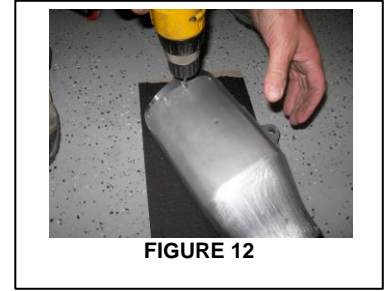

FIGURE 12
17. Install one self-tapping bolt at a time by drilling a 13/64" hole at each rivet hole location. Each time you drill a new hole and install a bolt, make sure that the end cap is pushed in, tight to the muffler. **FIGURE 12**